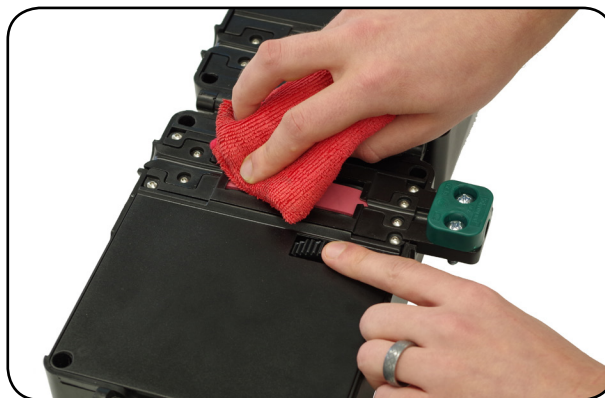

Figure 1
Step 1: Use a shop towel and isopropyl alcohol to wipe down the Assist Module belt (**Figure 1**).